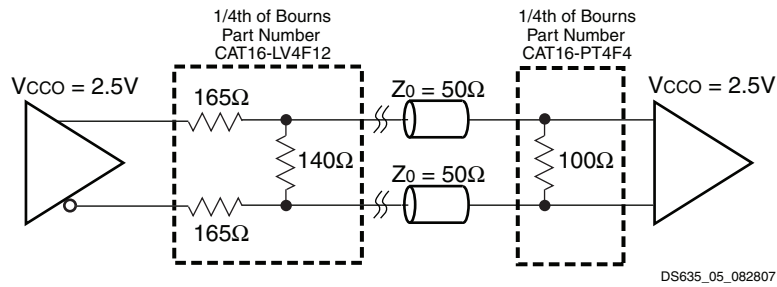

Figure 5: External Termination Resistors for BLVDS Transmitter and BLVDS Receiver
2. Output voltage measurements for all differential standards are made with a termination resistor (RT) of 100Ω across the N and P pins of the differential signal pair. The exception is for BLVDS, shown in Figure 5 below.